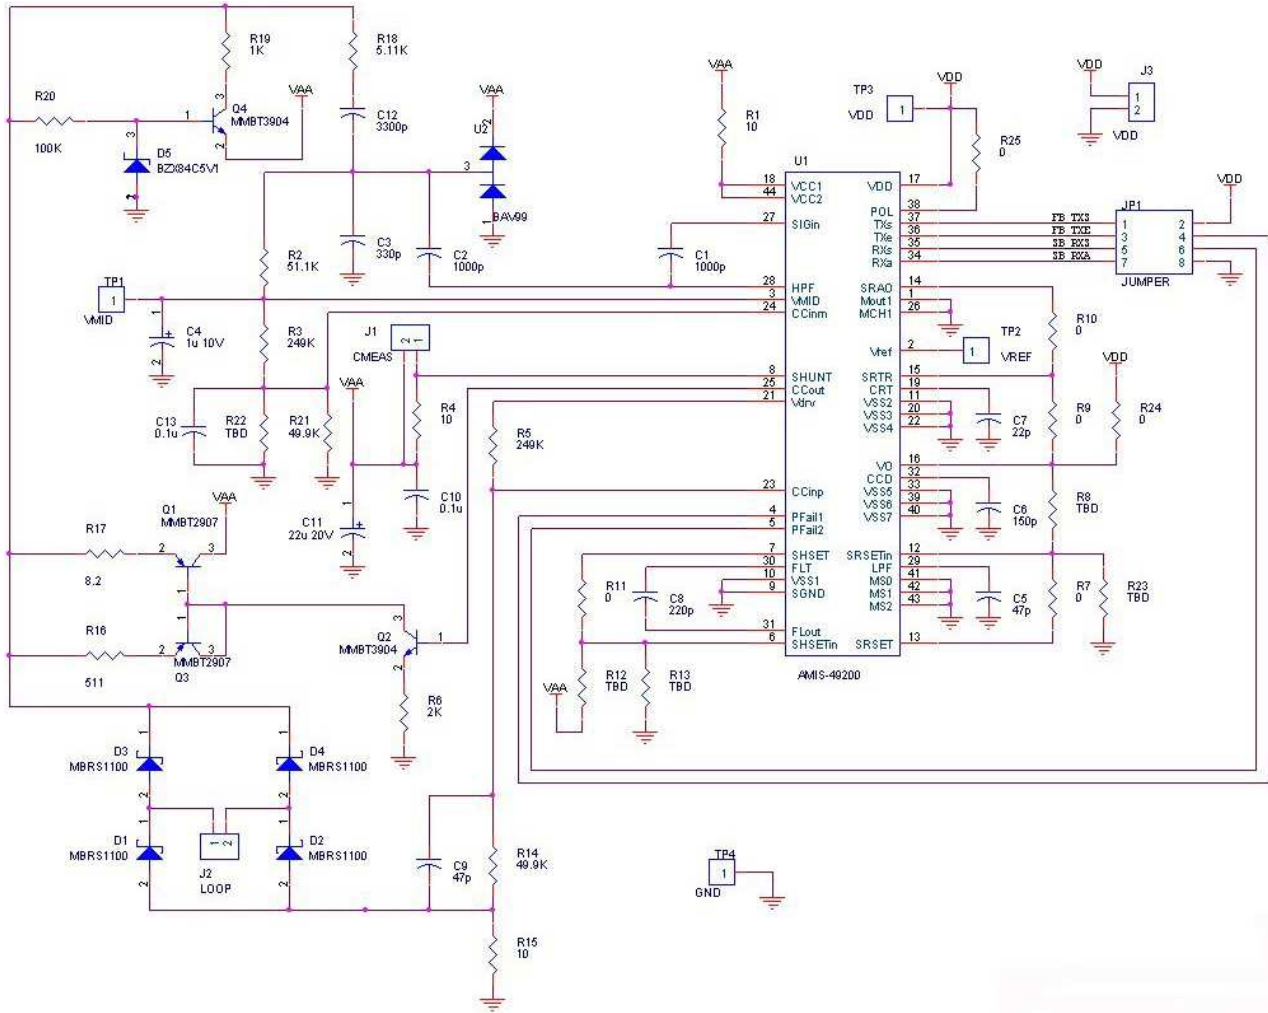

Figure 2. AMIS-492x0 Reference Design Schematic
as is, often this design can be slightly modified given unique application-related traits. Figure 12 in the AMIS-492x0 data sheet shows a general schematic independent of board layout. Figure 2 shows the AMIS-492x0 reference design that includes extra components to accommodate such application flexibility. This schematic together with PCB build files and a bill of material (BOM) constitute the AMIS-492x0 reference design package which can be found at the link listed in this document's reference section. The design in Figure 2 also passes the Foundation Fieldbus test (FF830, Rev. 1.5).
- Certain sub-circuits (e.g. voltage dividers) have been added to adjust analog (shunt regulator) supply voltage, digital (series regulator) supply voltage, and loop current settings (loop current regulator). Figure 2 shows these components as “TBD” to be adjusted by the customer as needed to modify the design to their application requirements. The “TBD” resistors not installed by default on the reference board are listed in Table 1.
- Reference board following the schematic in Figure 2, including the AMIS-49200 device.
The component values in Figure 2 in this document and Figure 12 in the AMIS-492x0 data sheet are differently labeled. For convenience, a cross-reference list is found in Table 2.